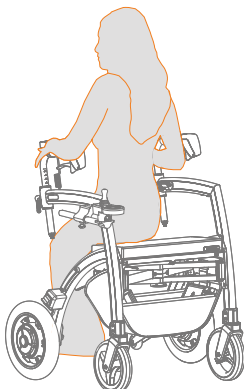

Figure 62: Sitting on the rollator seat.
- Sit down on the rollator seat from the rear (**Figure 62**). Always ensure that the Rollz Motion Electric walker is in the parking position.